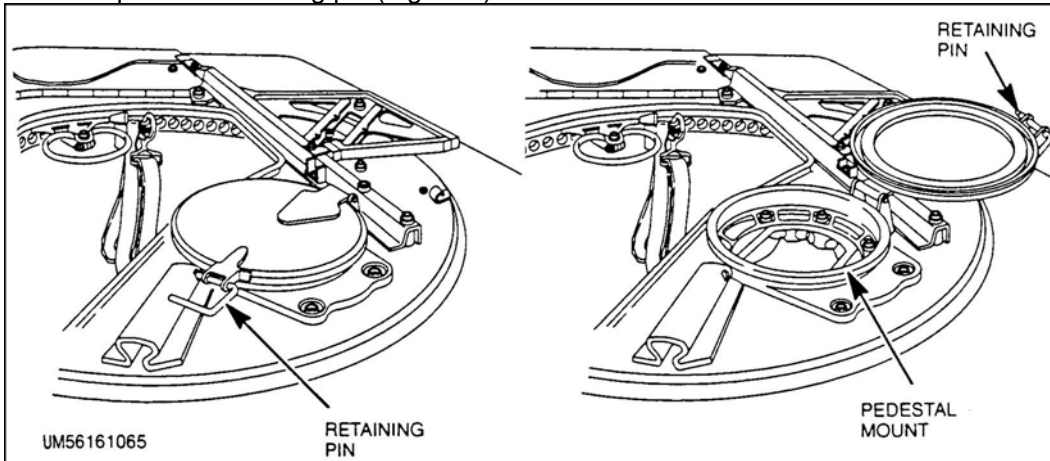

Figure 3. Securing pedestal mount cover open.
- h. Release latch securing pedestal mount, open cover away from pedestal mount, and secure cover open with retaining pin (Figure 3).